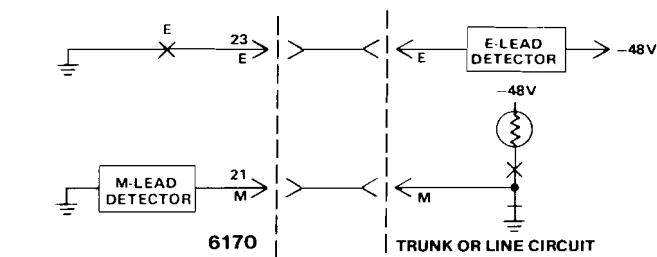

figure 8. 6170 optional for Type I E&M interface and A-side signaling
2.09 The 6170 can be switch-optional to derive either a Type I (single-lead) or a Type II or III (looped-signaling-lead) E&M interface. The Type I and Type II interfaces can be used with either A-side or B-side E&M signaling (see paragraphs 2.10 through 2.14). The Type III interface can be used with A-side signaling only. Figures 8 through 12 show the connections required for Type I, II, and III E&M interfaces with A-side and B-side signaling.